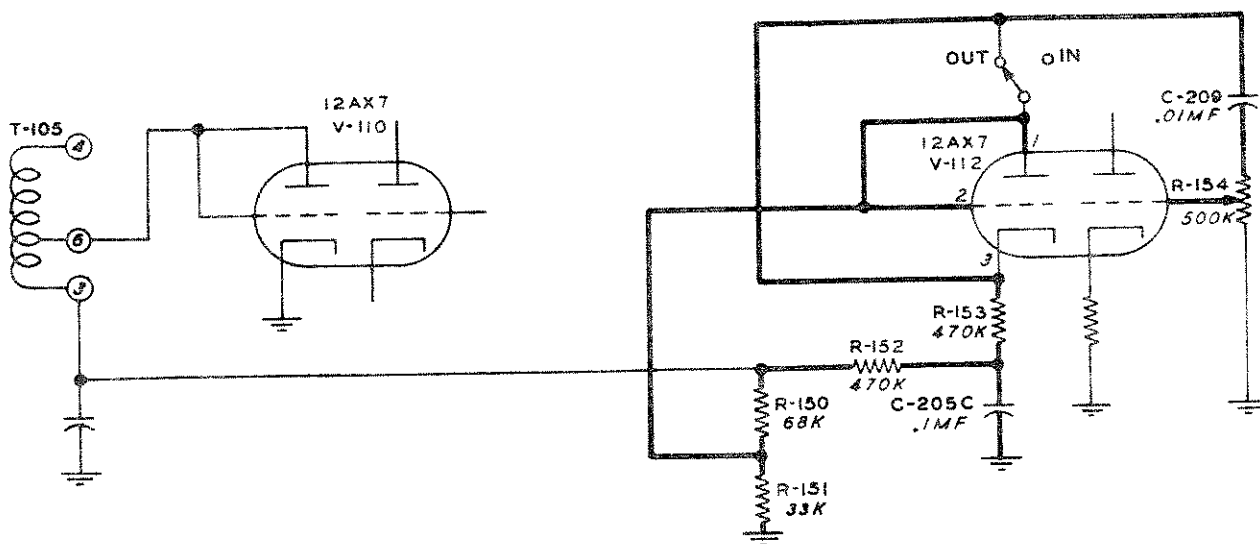

Figure 4-7. 51J-4 Noise Limiter Circuit
4.2.10. NOISE LIMITER. - A series type noise limiter is used in the 51J-3 receiver. This limiter employs one-half (pins 1, 2, and 3) of a type 12AX7 dual triode tube, V112. Refer to figure 4-7. Due to a-c loading of the